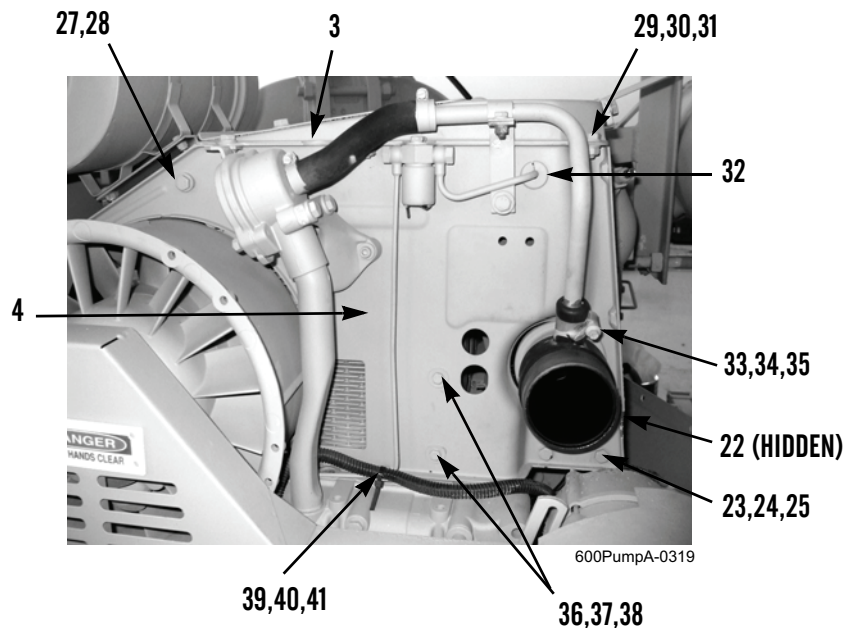

Figure 5. Front Air Duct Wall.
5. Remove two bolts (Figure 5, Item 27) and washers (Figure 5, Item 28) from front air duct wall (Figure 5, Item 4) and oil cooler.
6. Remove two bolts (Figure 5, Item 23), nuts (Figure 5, Item 24), and four washers (Figure 5, Item 25) from front air duct wall (Figure 5, Item 4) and lower left cooling air guide plate (Figure 5, Item 22).
7. Remove two bolts (Figure 5, Item 29), nuts (Figure 5, Item 30), and four washers (Figure 5, Item 31) from front air duct wall (Figure 5, Item 4) and upper cooling air guide plate (Figure 5, Item 3).
8. Remove two bolts (Figure 5, Item 33), lockwashers (Figure 5, Item 34), and washers (Figure 5, Item 35) from left cooling air baffle. Discard lockwashers.
9. Remove bolt (Figure 5, Item 39), lockwasher (Figure 5, Item 40), and washer (Figure 5, Item 41) from left cooling air baffle. Discard lockwasher.
10. Remove two bolts (Figure 5, Item 36), lockwashers (Figure 5, Item 37), washers (Figure 5, Item 38), and front air duct wall (Figure 5, Item 4) from engine. Discard lockwashers.
11. If necessary, remove grommet (Figure 5, Item 32) from front air duct wall (Figure 5, Item 4).
1. If removed, install grommet (Figure 5, Item 32) in front air duct wall (Figure 5, Item 4).
2. Install front air duct wall (Figure 5, Item 4), two washers (Figure 5, Item 38), new lockwashers (Figure 5, Item 37), and bolts (Figure 5, Item 36) on engine.
3. Install washer (Figure 5, Item 41), new lockwasher (Figure 5, Item 40), and bolt (Figure 5, Item 39) on left cooling air baffle.
4. Install two washers (Figure 5, Item 35), new lockwashers (Figure 5, Item 34), and bolts (Figure 5, Item 33) on left cooling air baffle.
5. Install four washers (Figure 5, Item 31), two bolts (Figure 5, Item 29), and nuts (Figure 5, Item 30) on front air duct wall (Figure 5, Item 4) and upper cooling air guide plate (Figure 5, Item 3).
6. Install four washers (Figure 5, Item 25), two bolts (Figure 5, Item 23), and nuts (Figure 5, Item 24) on front air duct wall (Figure 5, Item 4) and lower left cooling air guide plate (Figure 5, Item 22).
7. Install two washers (Figure 5, Item 28) and bolts (Figure 5, Item 27) on front air duct wall (Figure 5, Item 4) and oil cooler.